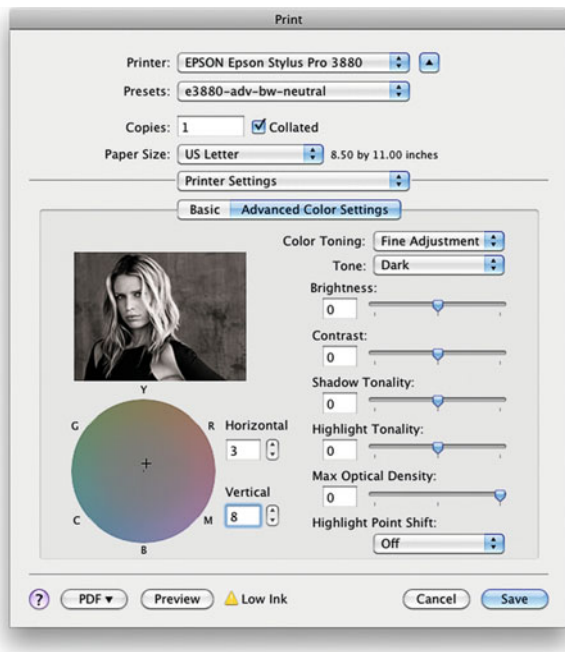

FIGURE 14.22
6. Go to the **Color Management** section of the driver, as seen in Figure 14.22. In this window, you will be able to fine-tune the image by adjusting the color tone away from neutral and make the overall print lighter or darker. Figure 14.23 shows the resulting prints through Advanced Black-and-White standard neutral settings and through the custom settings shown in Figure 14.22.
Resulting prints made with the Epson's Advanced Black-and-White mode on the Epson 3880 on Ilford Smooth Pearl media. Print on left using the standard Neutral (Darker) setting. Print on the right using the fine tune settings in Figure 14.22, which slightly warms the print by changing the Horizontal and Vertical adjustments and makes it slightly lighter by selecting a Dark Tone, instead of Darker.